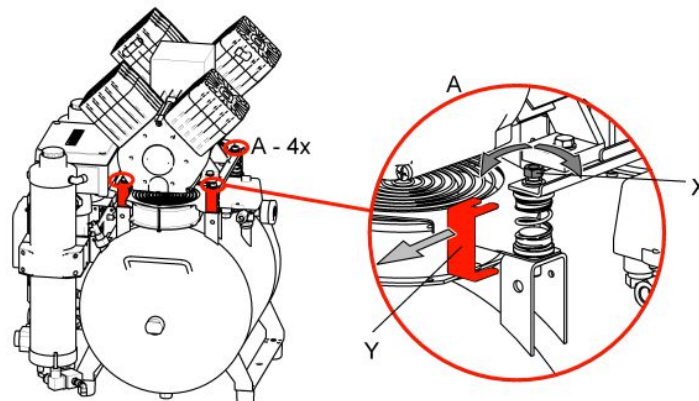

Fig.5 Unpacking
**Dental compressor DK50 2V/50, DK50 2V/50/M, DK50 4VR/50, DK50 4VR/50/M (Fig.5)**
**Dental compressor in box DK50 2V/50S, DK50 4VR/50S (Fig.4, Fig.5)**
**Dental compressor in DK50 2V/50S/M, DK50 4VR/50S/M (Fig.4, Fig.5)**